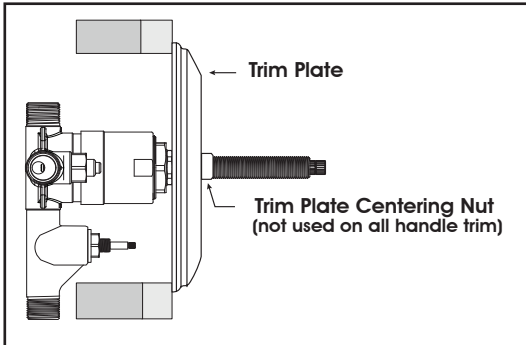

**FIG. 2**
3. Expose the top of the cartridge by removing the top hex cap from the valve body. FIG. 2